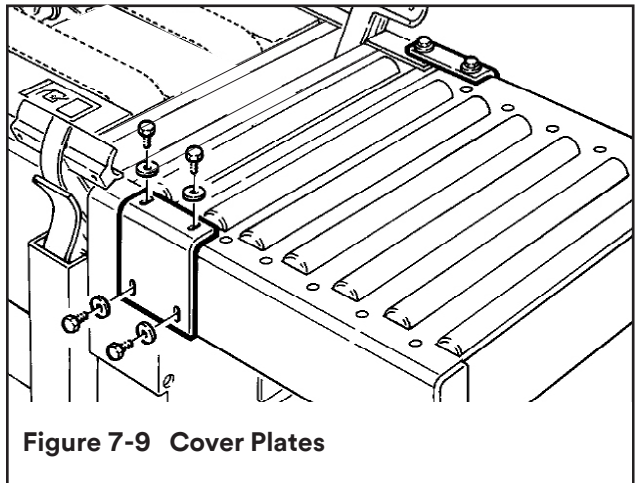

Figure 7-9 Cover Plates
6. Refer to **Figure 7-9**. Set the cover plates over the joint between the conveyor and the frame on each side and secure them with four (4) M8 × 15 screws and M8 washers.